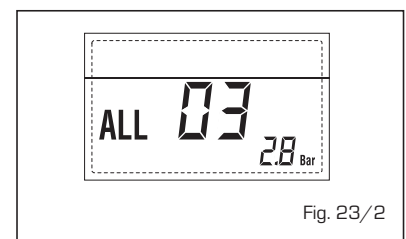

Fig. 23/2
- **D.H.W. SENSOR ANOMALY ALARM 04** (fig. 23/3)